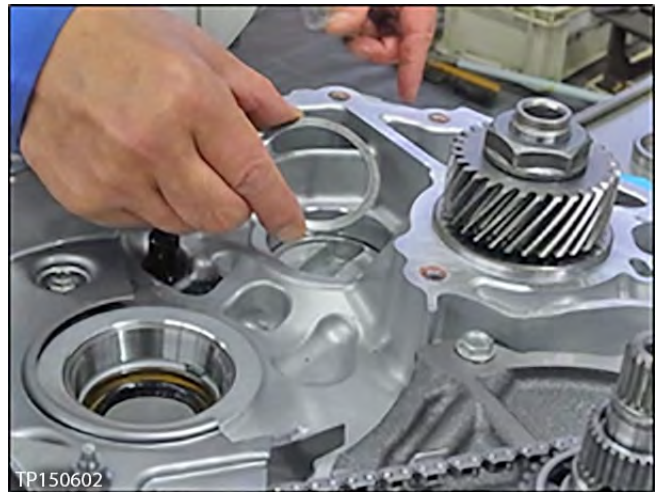

Figure 65
1. Install the new select shim(s) in the CVT case outer race bore (see Figure 65).